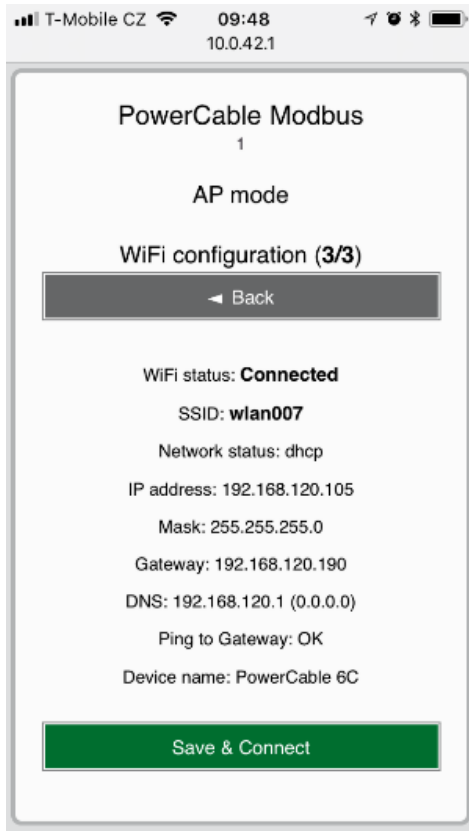
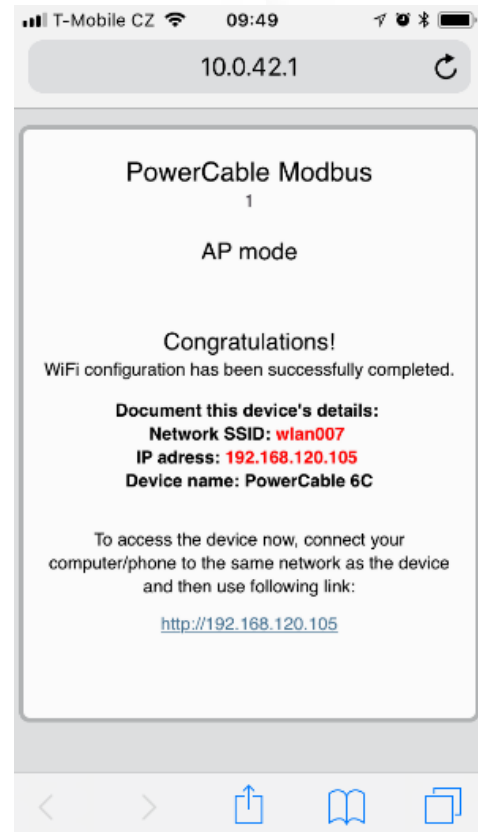

Figure 17 - Configured Wi-fi parameters
Figure 18 - Network connection info
- A page with the connection result is displayed. If it shows "WiFi status: Connected", check the network parameters and then click "Save&Connect" to save the configuration (Figure 17). The device then exits the AP mode, connects to the selected WiFi network, and displays a network configuration summary page (Figure 18). WiFi connection is indicated with the yellow LED.